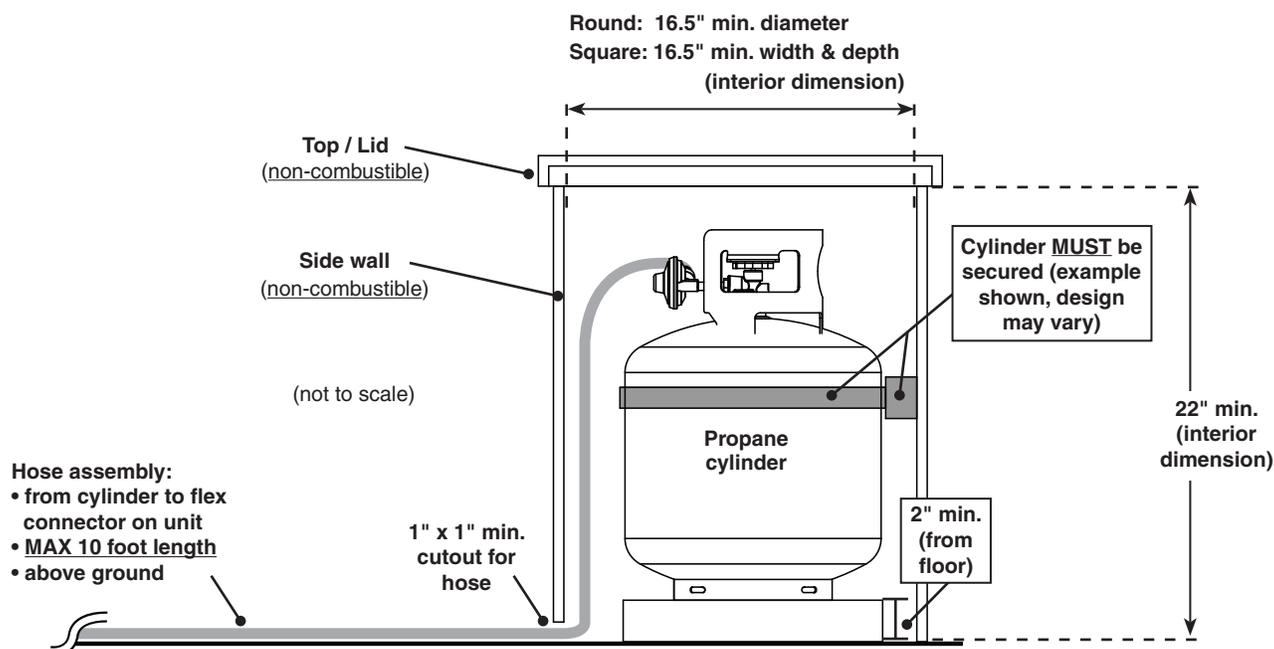

Fig. 13-1 Propane cylinder enclosure specifications (side view)
The cylinder enclosure can be constructed according to your individual preference, while following all guidelines found in this manual. **The enclosure MUST (see Fig. 13-1):**
- have minimum dimensions as illustrated in Fig. 13-1